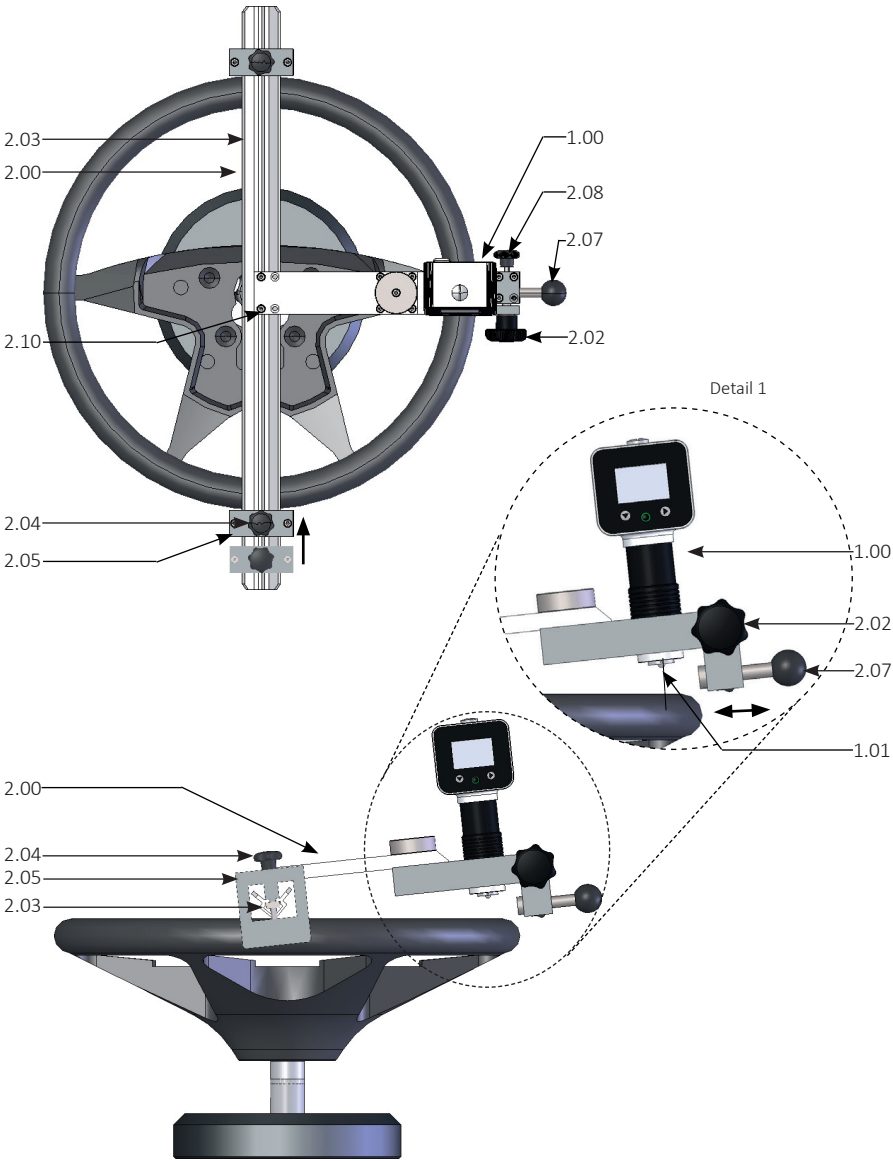

Fig. 3 Hardness tester and centring device
Adjustment of the centring device to the diameter of the steering wheel rim is carried out by moving the cylinder screws (2.10, Fig. 3).
Hold the centring device (2.00, Fig. 3) tightly with one hand, to avoid it falling.
- › Loosen the clamping screws (2.04, Fig. 3) of the stops (2.05, Fig. 3) of the profile bar (2.03, Fig. 3).
- › Slide the stops (2.05, Fig. 3) to the outermost position.
- › Carefully place the centring device (2.00, Fig. 3) on the steering wheel.
- › Loosen the clamping screw (2.08, Fig. 3) of the stop (2.07, Fig. 3).
- › Move the centring device (2.00, Fig. 3) so that the indenter (1.01, Fig. 3) of the hardness tester (1.00, Fig. 3) is above the measuring point of the steering wheel rim.
- › Tighten the clamping screw of the stop knob (2.02., Fig. 3) .
- › Tighten the clamping screws of the stops (2.04, Fig. 3) .
There should be a small distance between the steering wheel and the stops (2.05, Fig. 3) so that the centring device remains rotatable.
The hardness tester (1.00, Fig. 3) is switched off.
- › Raise the centring device (2.00, Fig. 3) using the stop knob (2.07, Fig. 3) so that the indenter (1.01, Fig. 3) hangs freely.
- › Lower the centring device (2.00, Fig. 3) to the measuring point of the steering wheel using the stop knob.